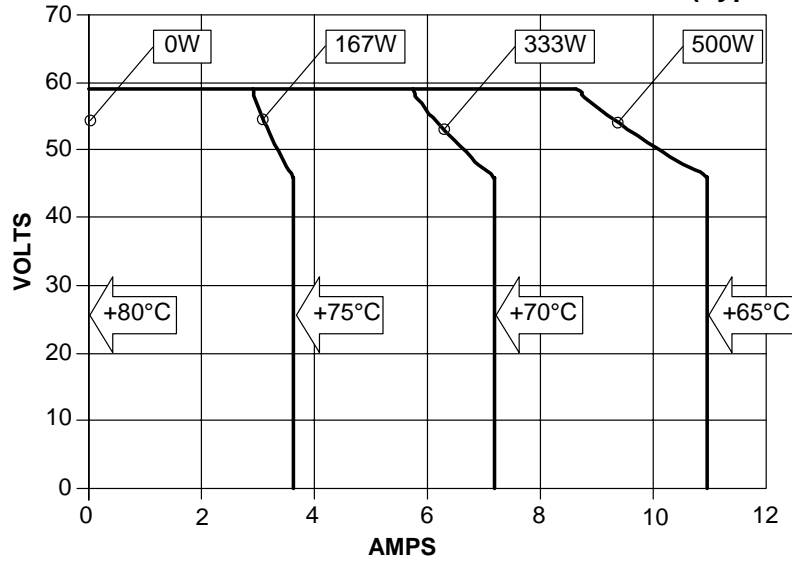

Figure 3
(D) Refer to Figure 3 for a curve that represents the typical LXP1000 output power characteristics at various ambient temperatures. Output voltage and current limit are set to maximum.